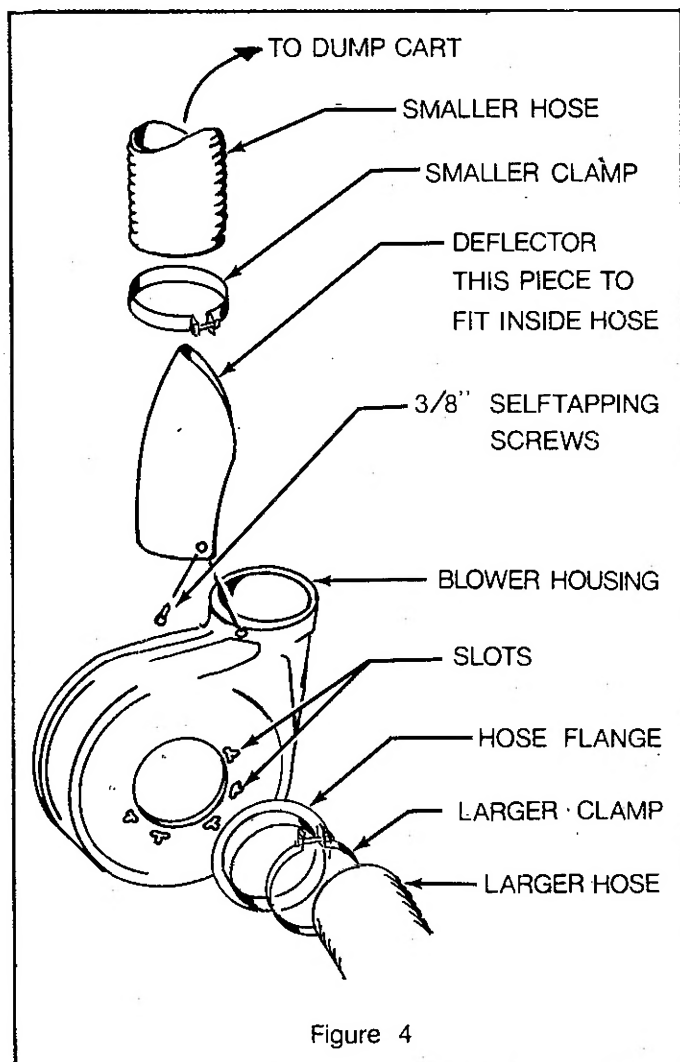

Figure 4
5. Attach the deflector to the blower housing with two $3/8$ " self tapping screws (Figure 4).
6. Place the 6" diameter hose over the deflector and blower housing and secure with the smaller of the hose clamps using one $1/4-20 \times 2$ " machine screw, lockwasher and hex nut (Figure 4).
7. Mount one end of the 7" hose to the hose flange using one of the larger hose clamps and one 1/4-20 x 2" machine screw, lockwasher and hex nut (Figure 4).
8. Slide the hose flange into the slots in the blower housing (Figure 4).
1. Install the hose flange and a hose clamp on the plain end of the hose. Secure with one 1/4-20 x 3" machine screw, lockwasher and hex nut (Figure 4).
3. Attach the flanged end of the roving nozzle to the blower housing, seating the flange fully in the slots (Figure 4).